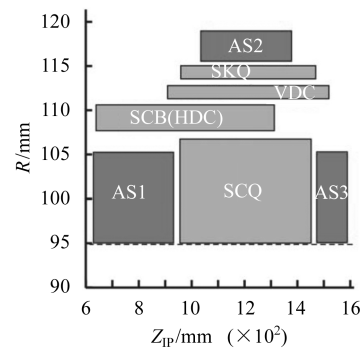
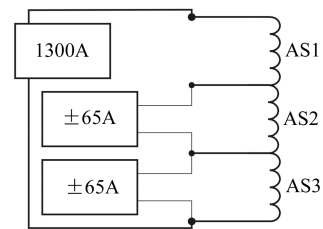

Fig. 1. The coil layout schematic.
Fig. 2. The power connection configuration for AS.
BEPC II is an upgrade project of BEPC, the Beijing Electron Positron Collider. It is designed not only as an electron-positron collider in the energy range of 1.55GeV to 1.89GeV, but also as a dedicated synchrotron radiation facility at the energy of 2.5GeV. In order to meet the machine requirements, a superconducting magnet complex will be used on each side of the interaction point (IP). The BEPC II interaction region (IR) superconducting magnet complex consists of 3 anti-solenoid (AS1, AS2, AS3), 1 quadrupole (SCQ), 1 dipole (SCB, also used as a horizontal dipole corrector HDC in collider mode) and 2 sets of corrector coil (VDC, SKQ). AS1, AS2 and AS3, together named AS, are powered with one 1300A unipolar power supply in series while AS2 and AS3 have their independent trim power supplies to achieve fine tuning^[1-3]. The magnet coil layout is shown in Fig. 1 and the power connection configuration for AS is shown in Fig. 2. Table 1 gives the main parameters of the magnet coils.